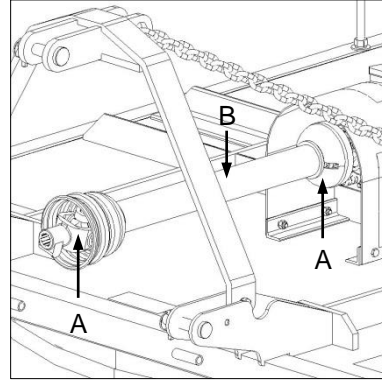

Fig. 5
- ✔ Apply grease to the universal joints (Fig. 5-A) and telescopic tubes (Fig. 5-B) of the PTO shaft.
- ✔ Ghries die kruiskoppelings (Fig. 5-A) en teleskopiese buise (Fig. 5-B) van die kragtakkeras.